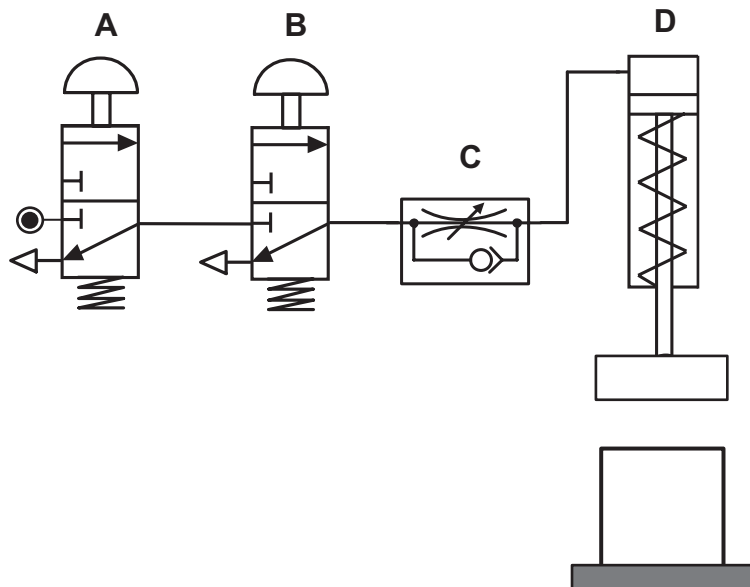

Fig. 14
- (b) Fig. 14 shows a pneumatic circuit used to stamp boxes.
(i) Describe how the circuit in **Fig. 14** works.
(ii) Outline **three** safety precautions that should be applied when building the circuit shown in **Fig. 14**.